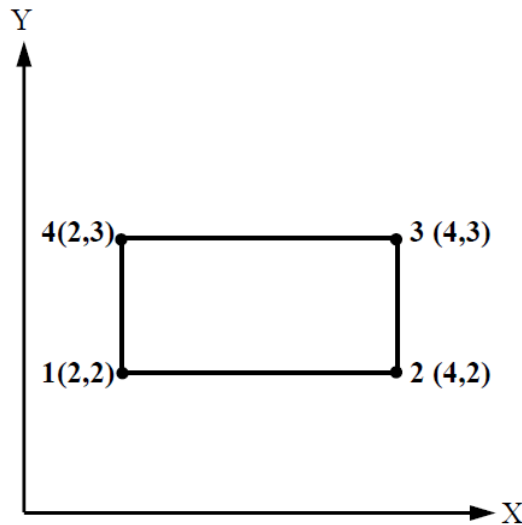

Figure P5.8
8. A bilinear rectangular element has coordinates as shown in **Figure P5.8** and the nodal temperatures are $T_1 = 100^\circ\text{C}$, $T_2 = 60^\circ\text{C}$, $T_3 = 50^\circ\text{C}$ and $T_4 = 90^\circ\text{C}$. Compute the temperature at the point $(2.5, 2.5)$. Also determine the 80°C isotherm.